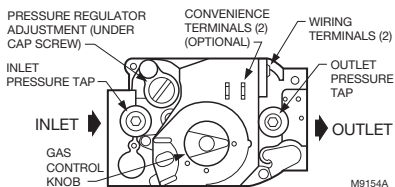

Fig. 4. Top view of gas control.
6. Connect pipe to gas control inlet and outlet. Use wrench on the square ends of the gas control. If a flange is used, place wrench on flange rather than on gas control. Refer to Fig. 4 and 5.
3. Connect control circuit to gas control terminals. See Fig. 4 and 6.
- 2. With the main burner operating, check the gas control flow rate by using the meter clocking method or check the gas pressure using a manometer connected to the gas control outlet pressure tap. Refer to Fig. 4.
- 2. With the main burner operating, check the gas control flow rate by using the meter clocking method or check the gas pressure by using a manometer connected to the gas control outlet pressure tap. Refer to Fig. 4.